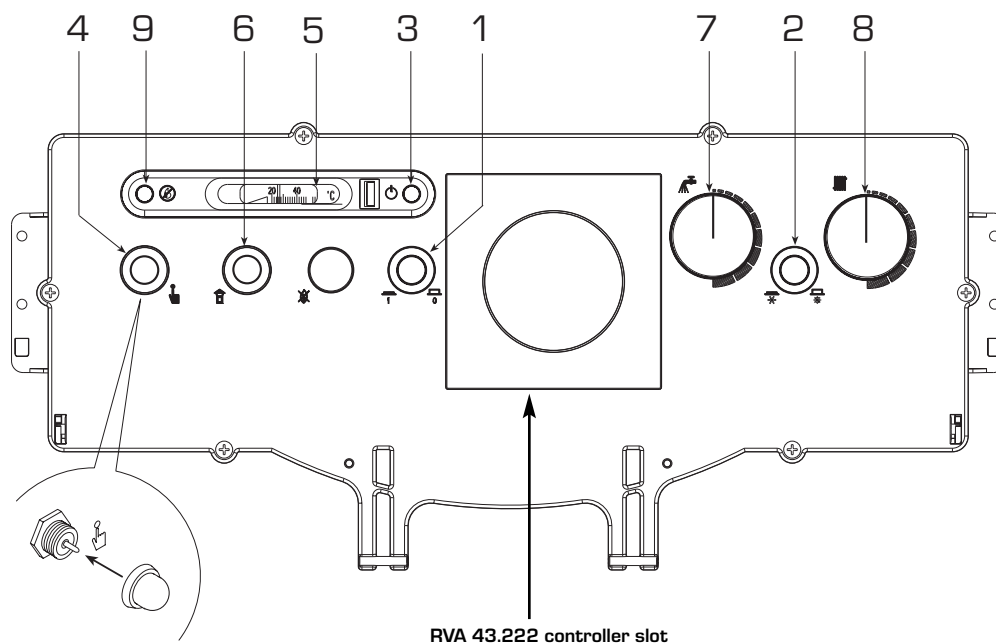

Fig. 6
The boiler is fitted with an electricity cable, and requires a single-phase power supply of 230V - 50Hz through the main switch protected by fuses. The room thermostat (required for enhanced room temperature control) should be installed as shown in fig. 6. Connect the burner and system circulation pump power cables supplied.
All functions of the boiler may be controlled using the controller, optional code 8096303, which is supplied with an outdoor temperature probe (SE) and a boiler immersion probe (SC). The controller is installed in the control panel in place of the relating cover (fig. 6). The controller is to be connected to an additional series of low voltage connectors for connection of the room temperature control unit (the connectors are supplied in a bag inside the control panel).
3.2.1 Lighting the boiler [fig. 6]
3.2.2 Safety stat [fig. 6]
3.2.3 System filling [fig. 6]
3.2.4 Turning OFF boiler [fig. 6]